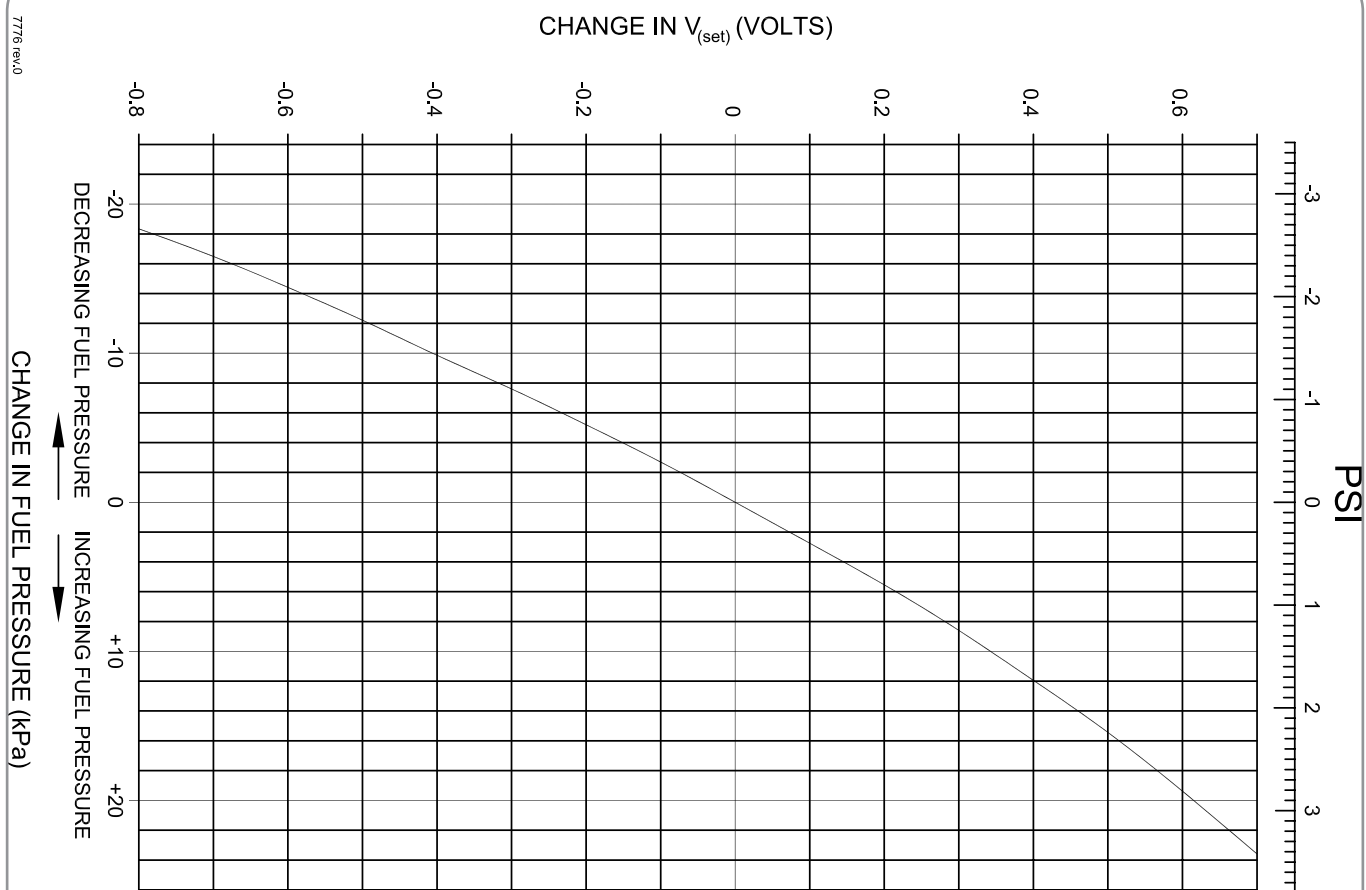

Figure 14 Fuel Pressure Vs V_{set}
To change V_{set} it is necessary to change the fuel pressure. Figure 14 shows the change in V_{set} as a function of the change in fuel pressure for a typical TEG operating at rated power. The following examples will illustrate how this curve can be used.
- 4) Determine the required change in fuel pressure from Figure 14 and record as Item 10.